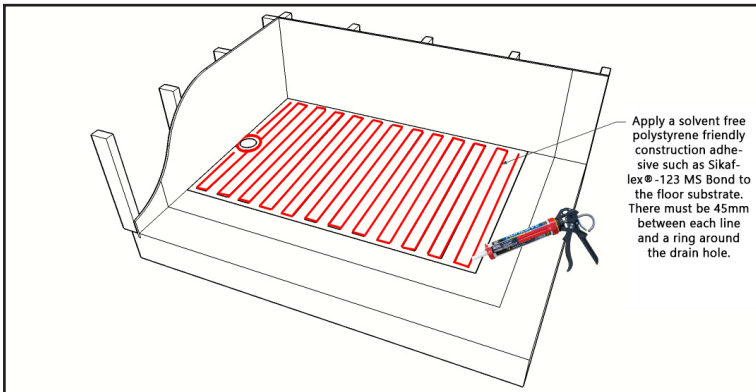

Fig. 4.1: Adhesion of the base using a solvent free polystyrene friendly construction adhesive such as Sikaflex®-123 MS Bond.
**a)** Lightly sand the stainless steel area on the back of the tray and apply a solvent free polystyrene friendly construction adhesive such as Sikaflex®-123 MS Bond to the marked floor area. Adhesive should be applied in a zigzag format with a generous bead – this is to prevent any potential air pockets forming under the base. (See Fig. 4.1)